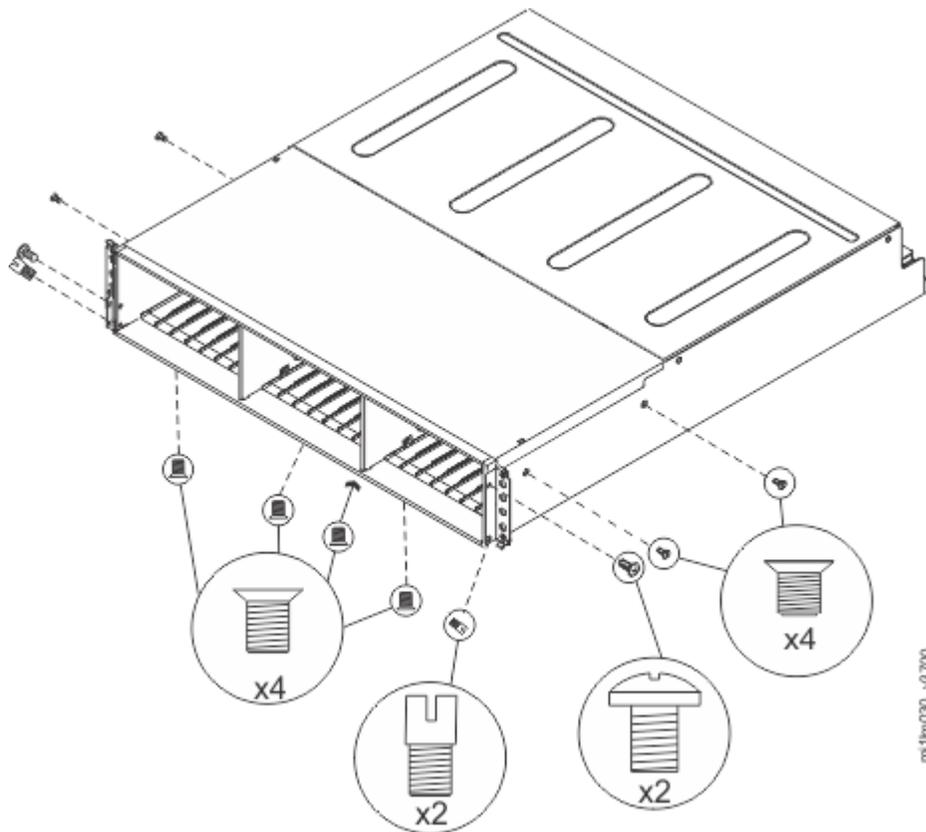

Figure 120. Removing the screws of an expansion enclosure assembly
12. Remove the four screws from the bottom of the enclosure (see Figure 120 on page 184). Remove the three screws that are near the front and the screw that is near the middle. Label these screws to indicate the location from which they are removed and place them aside.
14. Remove the three screws and one screw-pin on the right side that secure the midplane assembly to the enclosure (see Figure 120 on page 184). Label the screws to indicate the location from which they are removed and place them aside.
15. Remove the three screws and one screw-pin on the left side that secure the midplane assembly to the enclosure (see Figure 120 on page 184). Label the screws to indicate the location from which they are removed and place them aside. See Figure 4.